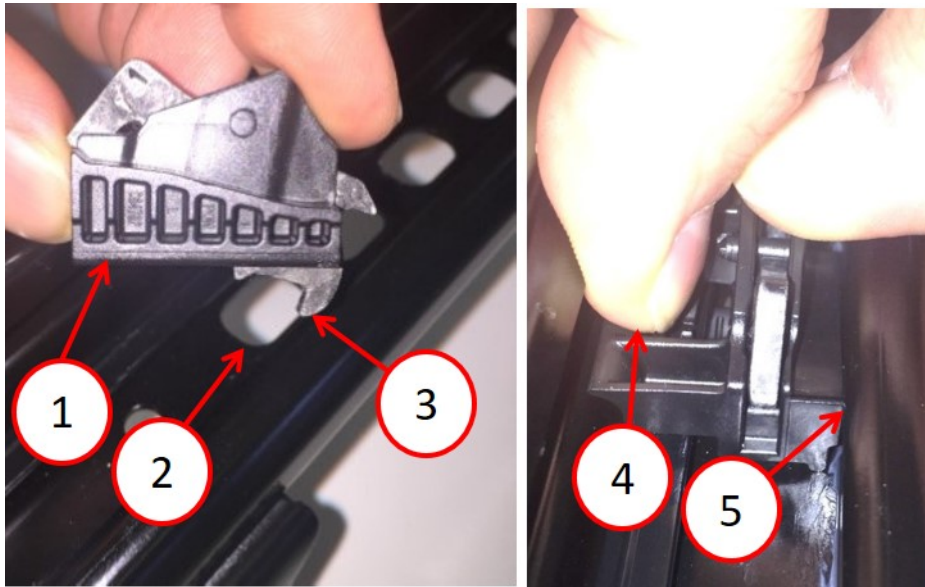

Fig. 10
23. Insert the new seat position return corrugated side first, into the seat track (Fig. 10) .
24. Install the new seat position return by placing one finger on the peak and a second finger on the open cavity side, pushing the seat position return straight down into the seat track with the claw inserted into the last locking slot on the track (Fig. 10) .